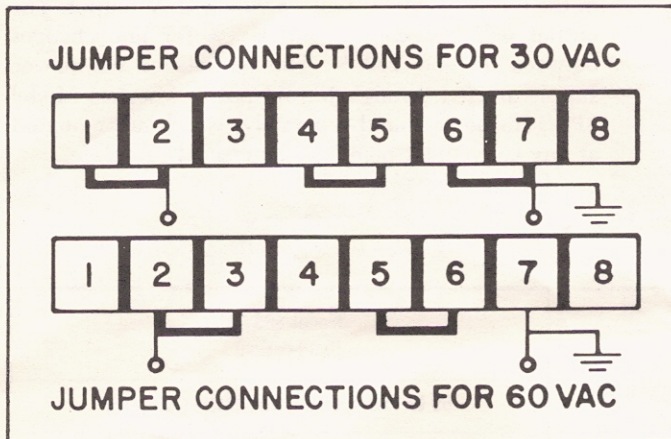

Fig. 2—30 and 60 V Bus Connections
- 3.3** If the factory-wired 30 V unit has to be adapted for 60 V output, simply change the shorting buses on the terminal block mounted on the transformer frame as illustrated in Fig. 2.